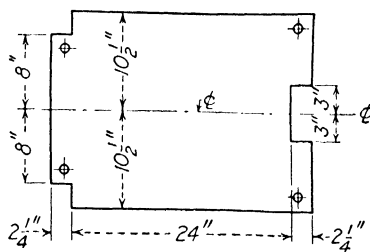

Fig. 69.
9. Calculate the area and perimeter of the plate shown in Fig. 69.